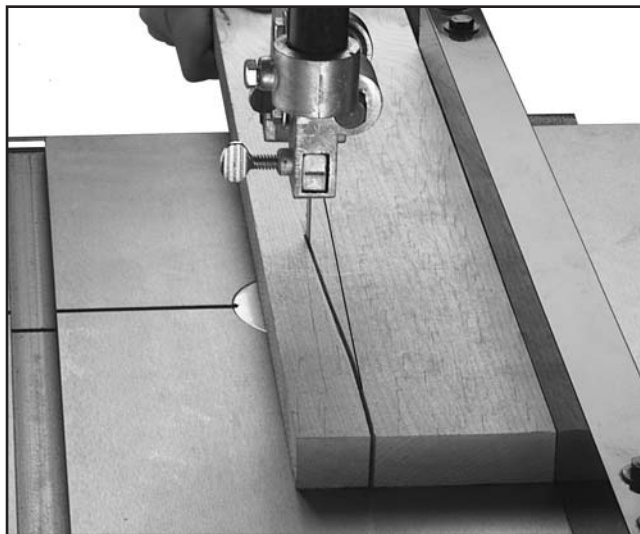

Figure 17. Typical example of blade leading away from line of cut.
Sometimes the bandsaw blade will not cut straight even when the fence and blade are parallel (see **Figure 17**). This condition is called "lead." Lead occurs (1) if the blade tension is incorrect, (2) if the teeth are dull on one side, or (3) if the teeth are set heavier on one side of the blade than the other.